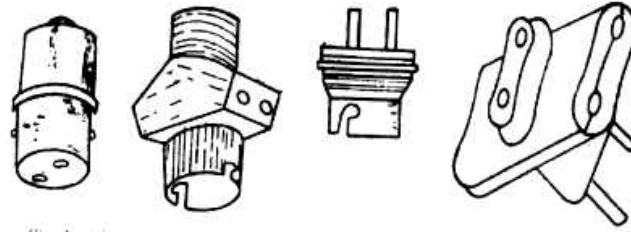

Fig. 5.9
i. Single Adapter. It is used with a lamp holder for taking an additional connection. Some times, it is called a *lamp holder adapter*, (see Fig. 5.9)
ii. Socket Adapter. It is used with a socket. A lamp holder is built on its other end. (see Fig. 5.9)
iii. Parallel Adapter. It is used with a lamp holder. One holder and two sockets are built on its body in three different sides, (see Fig. 5.9)
iv. Multi-plug Adapter. It is used with a socket. Three sockets are built on its body in three different sides, (see Fig. 5.9)